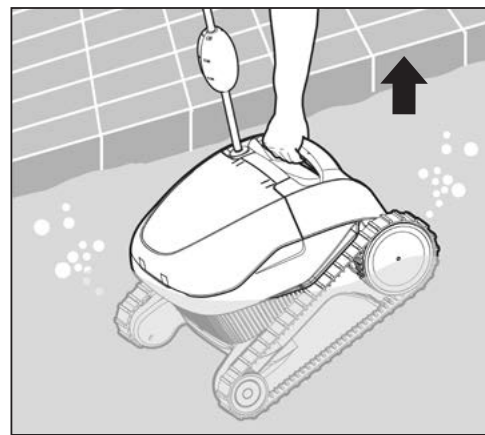

Figure 7
3. Using the handle, lift the cleaner out of the pool. See **Figure 7**.